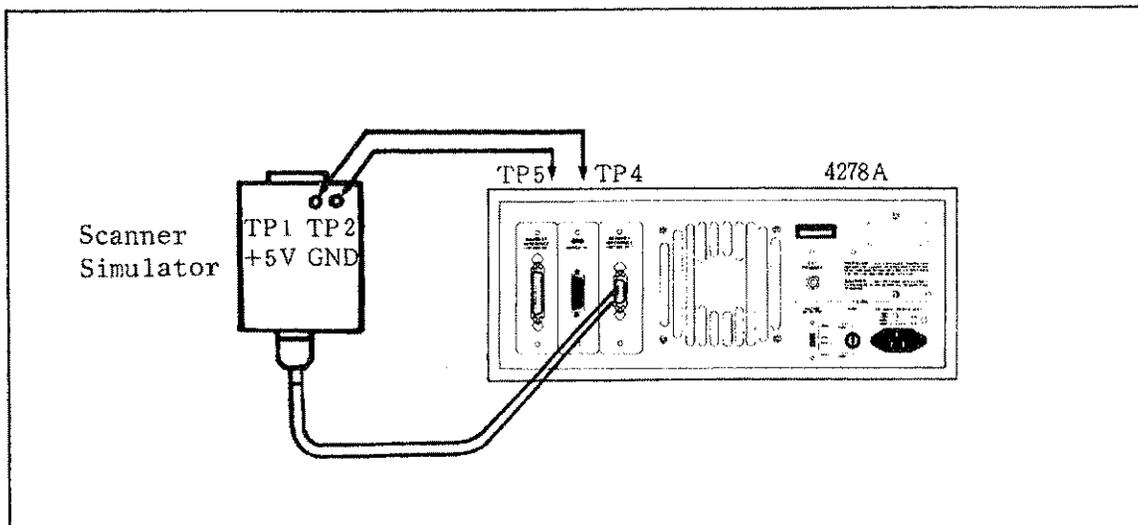

Figure 6-17. Scanner Simulator Connections
8. Connect the cable furnished with the scanner simulator to the scanner I/O connector on the rear panel of the 4278A. Refer to Figure 6-17.